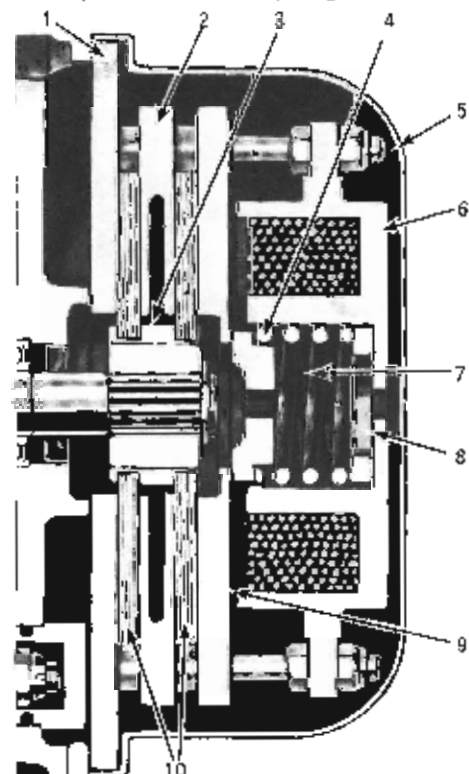

Figure 5-19. Magnetic Brake Assembly
14. To reassemble the magnetic brake (Figure 5-19), slide the disc hub (3) on the spline of the motor pinion shaft and secure in place with the snap ring.